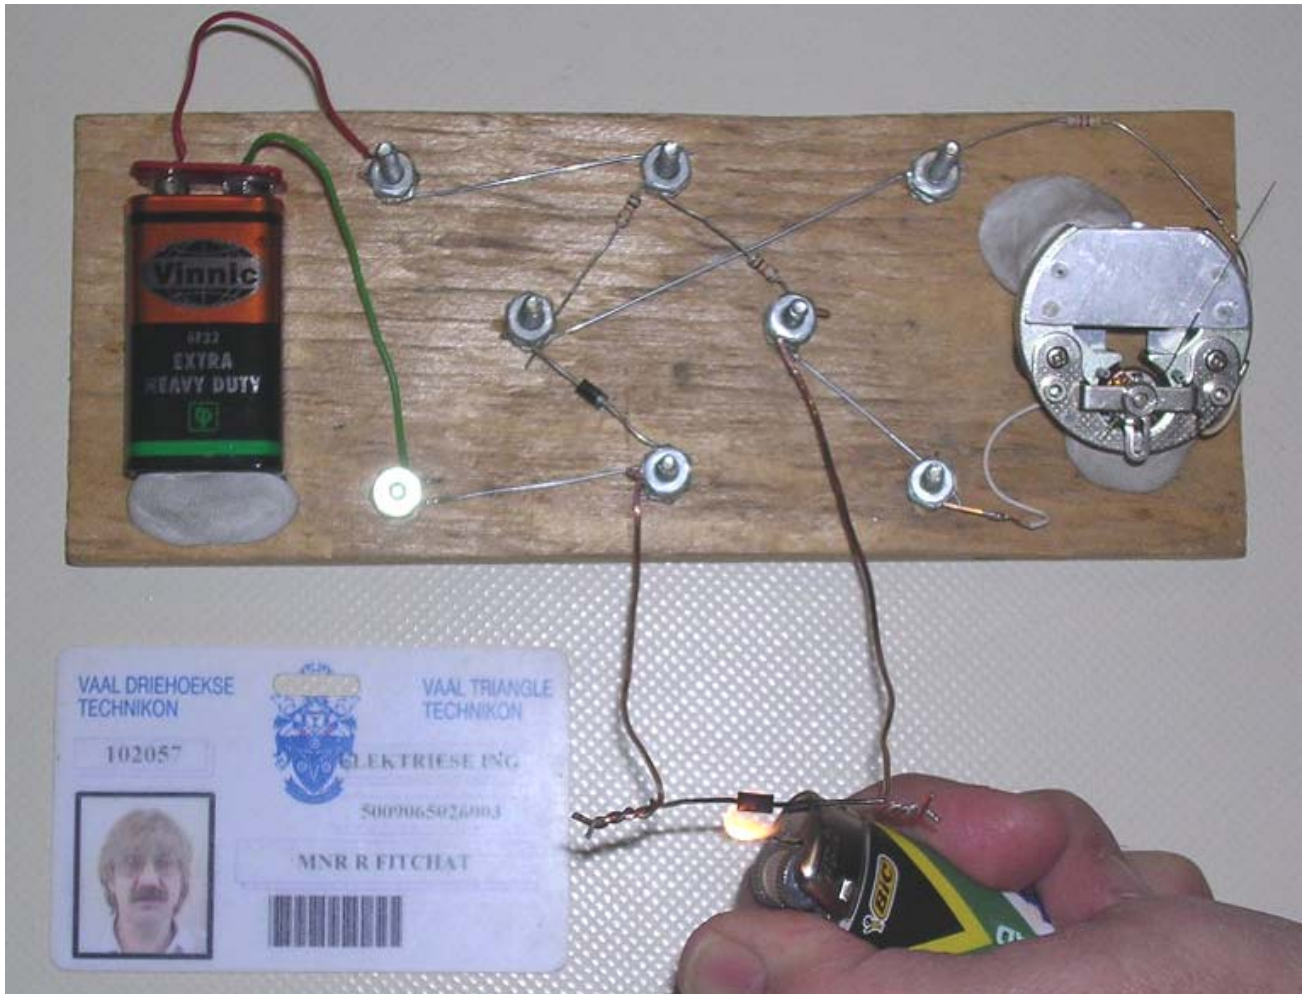

Figure 7-2
Students will prepare this project and demonstrate their work in class on the scheduled date. A very clear and well focussed colour photograph (or good quality colour computer printout), showing the project construction together with the student's student card or other identification, clearly indicating the student's name and student number, will also be prepared by each student as part of the demonstration and assessment. The photograph must be handed in during the demonstration and students must make a copy of their project photograph (before the demonstration) that will be included in their module portfolio. Students that demonstrate an operational thermometer that reacts properly to temperature changes, and submit a photograph (see for example Figure 7-2) that adequately represents their work, will receive at least 50% for unit 3.
4. A thermometer sensor that does not work well, but is still sensitive to temperature changes, will be awarded 50%. A thermometer crudely constructed on breadboard or wood, see for example the prototype in Figure 7-2, that functions correctly, will receive a mark of 60%. If in addition, students that pay more attention to the construction and appearance of the project (for example building the circuit neatly on veroboard), will receive 70%. If, in addition to this, motivated and enthusiastic students that successfully attempt to calibrate the device and demonstrate an interesting method to provide for cold junction compensation (as given, the thermometer will only give a reading with respect to room temperature), will receive an assessment mark of 80% or higher, according to the judgement and discretion of the assessor.